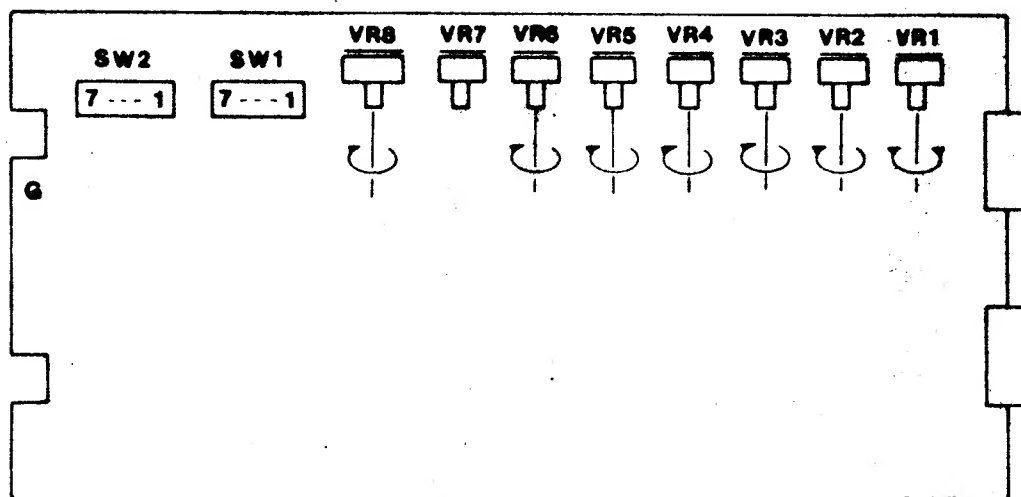

Fig. 4
(See Fig. 4 and Tables 1 & 2)
- o SW1 - SW3 ... Switches for the change-over of the replay scores (See Fig. 4 and Table 1)
1 COIN - 2 PLAYERS (See Fig. 4 and Table 3)
(See Fig. 4 and Table 4)